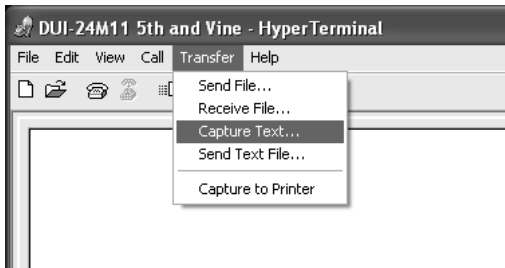

FIGURE 23
1. From the **Terminal Interface** window click '**Transfer**' menu then click '**Capture Text**'. See Figure 23 below.